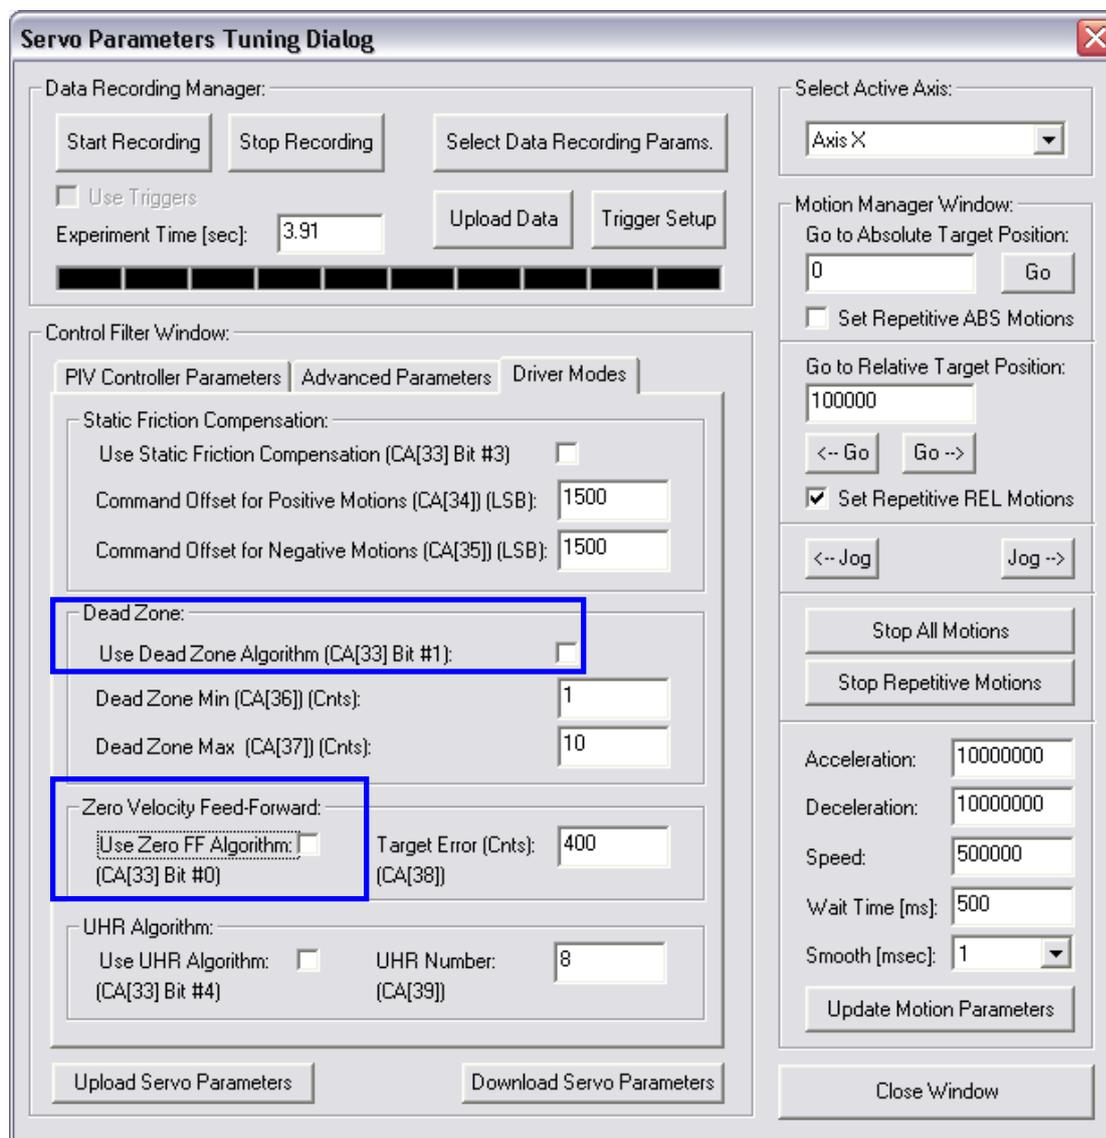

Figure 10: Defining the “Driver Modes”
5. Click the “Driver Modes” tab and clear the “Use Dead Zone Algorithm” check box, see Figure 10.